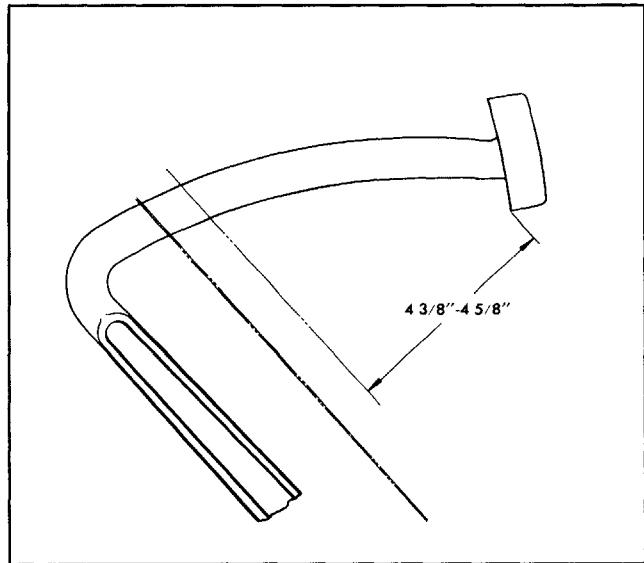

Fig. 5-6 Correct Brake Pedal Height
1. Jack up all wheels, and inspect brake pedal height. Distance from floor mat to underside of pedal pad should be  $4\frac{3}{8}''$ - $4\frac{5}{8}''$  (Fig. 5-6). If necessary, loosen locknut and adjust master cylinder push rod to give correct pedal height. On Synchro-Mesh transmission cars, see that clutch pedal is at same height as brake pedal (adjust clutch pedal height if necessary). **NOTE:** If dust boot is stuck to push rod, it should be loosened before making adjustment. Make sure push rod locknut is tightened securely after making adjustment.